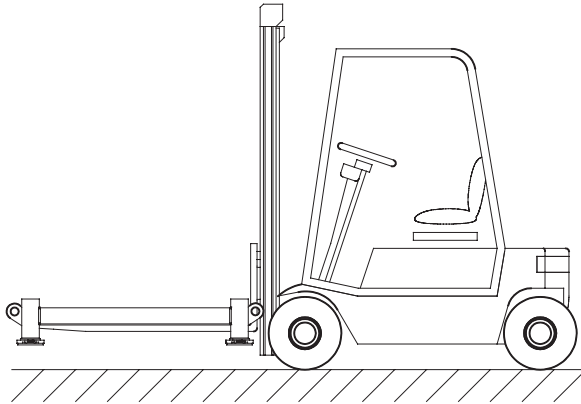
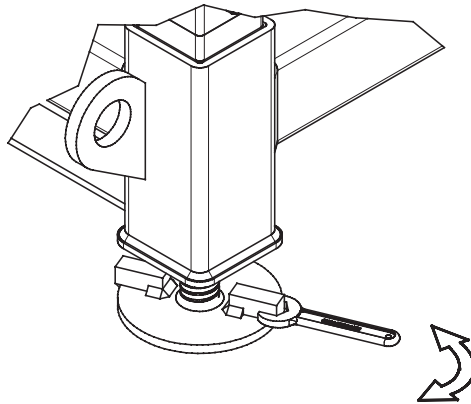

Figure 12. *Lifting the Bottom Frame with a fork lift truck.*
Figure 13. *Adjustment of the Foot height with a 22 mm spanner.*
1. Make sure that the ground, where the Loading System MkII is placed, is relatively flat. The Loading System MkII Base has adjustable feet which are designed to adjust within a 5 degree inclination. Use a fork lift truck to handle the Bottom Frame, place the forks underneath the horizontal tubes into the fork guiding profiles prior to lifting, see Figure 12. Place the Bottom Frame on the ground. Use a spirit level to make sure that the Bottom Frame is level. If not, rotate the feet by hand or use a 22 mm spanner or a hammer to strike on the Adjusting Bar to adjust the feet until the Bottom Frame is level, see Figure 13.